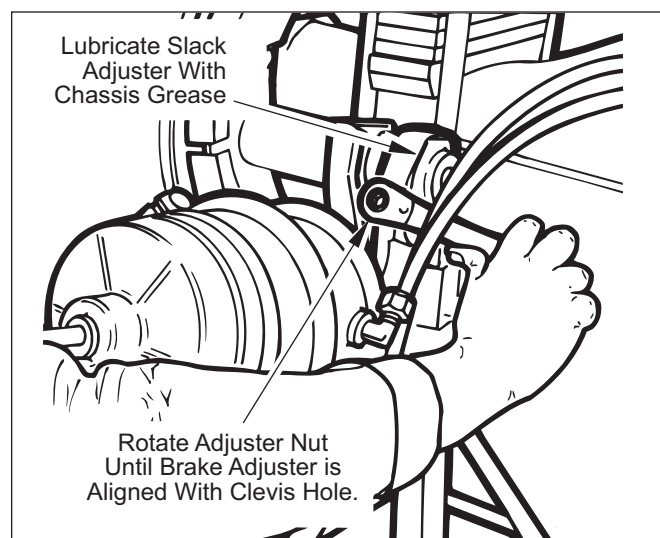

Figure 56. Brake Adjuster Lubrication and Adjustment
10. Pressure lubricate brake adjuster according to manufacturer's instructions. Pressure lubricate air chamber bracket until grease flows out of brake adjuster end of tube. Refer to Figure 56.
12. While depressing locking sleeve, rotate adjusting nut as required until appropriate hole in brake adjuster is aligned with hole in air. Refer to Figure 56.